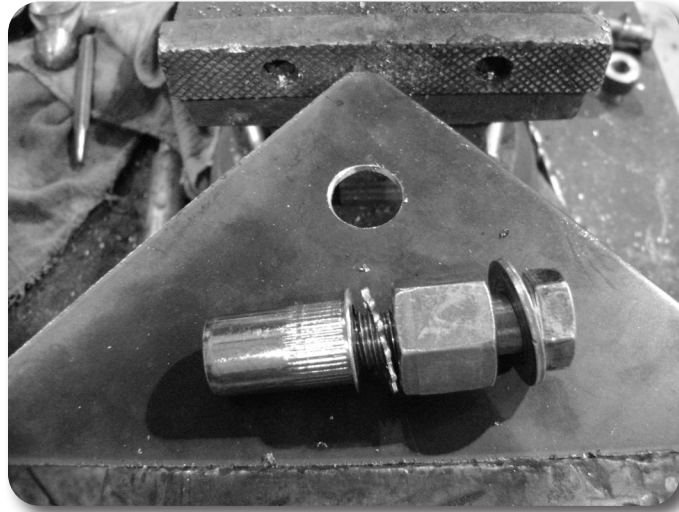

Figure 1 - 1/2" Rivet Nut Shown
2. For a 3/8" rivet nut, place the provided 3/8" SAE flat washer on the 3/8" x 1-1/2" bolt, followed by 7/16" hex nut and then a 3/8" serrated washer. Figure 1 Thread this tool assembly into the rivet nut.
3. For a 1/2" rivet nut, place the provided 1/2" SAE washer on a 1/2" x 2" bolt followed by a 9/16" high nut and 1/2" serrated edge lock washer. Thread this tool assembly into the rivet nut as shown. Figure 1.